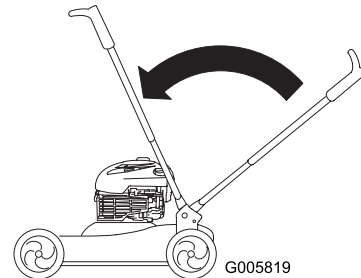

Figure 46
3. Raise the handle to the vertical position (Figure 46).